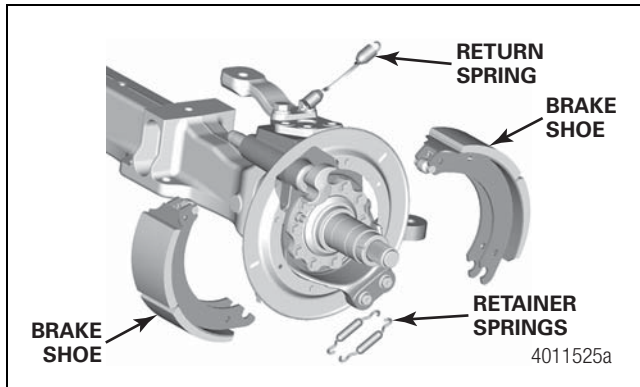

Figure 7.15
12. Install the brake shoes on the brake spider. Install the return springs and retainer springs. Lift the ends of the brake shoes and install the brake rollers. Figure 7.15.